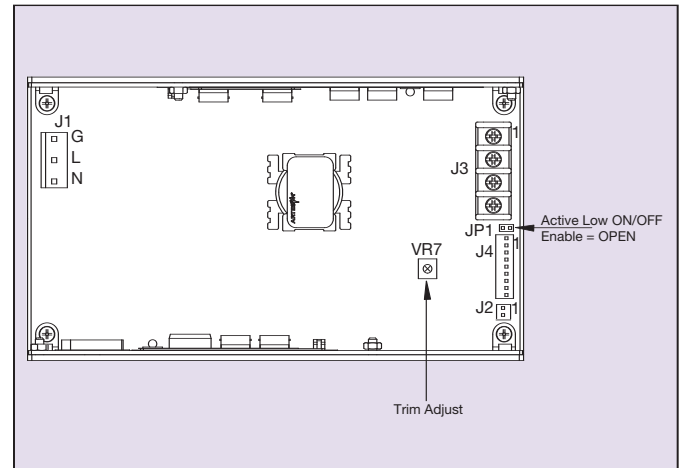

Figure 14 - Trim Potentiometer Location
The NLP250 series is factory supplied with the PS ON signal disabled by an installed link reference JP1 (See Figure 14).
- The PS OFF (J4 pin 4) should be ignored by leaving it open. The PS ON signal (J4, pin 5) needs to be enabled by removing Link JP1 (See Figure 14).